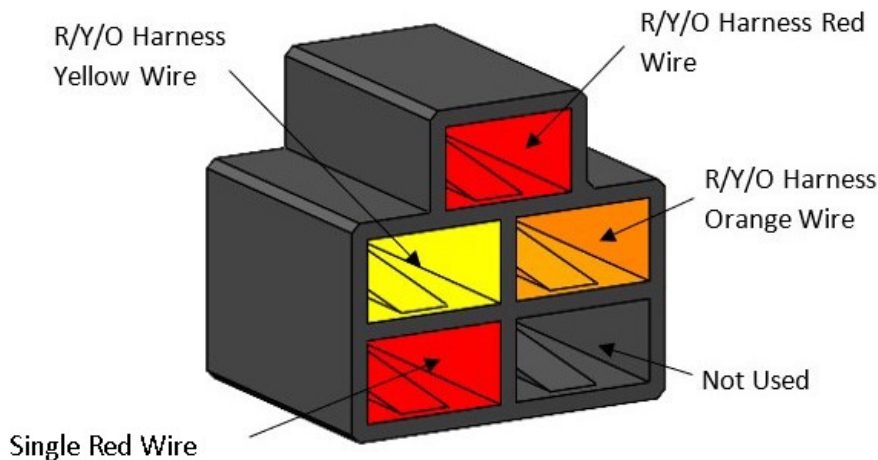

FIGURE 8
top and bottom of it. *FIGURE 8*
37. Locate the 60" Wiring Harness and ensure the wires are correctly connected to the 5-Pin Black Connector as shown in Figures 8 and the 4-Pin White Connector as shown in Figure 9.